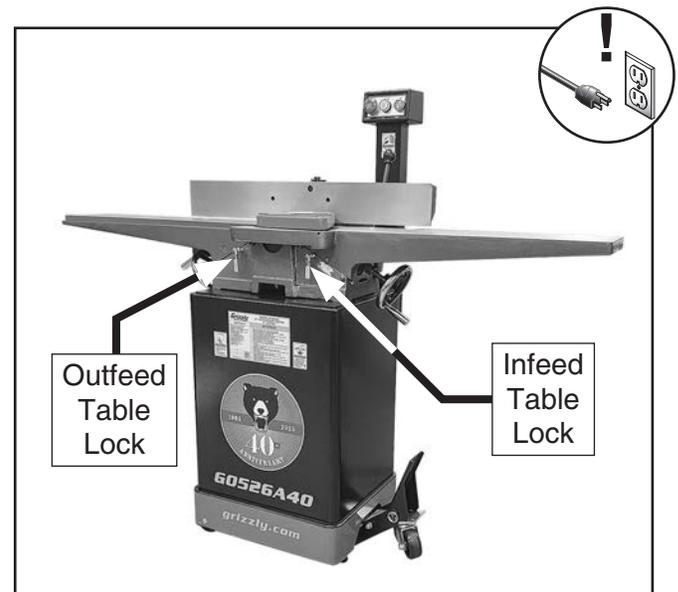

Figure 47. Location of table locks.
3. Loosen outfeed table lock (see **Figure 47**).